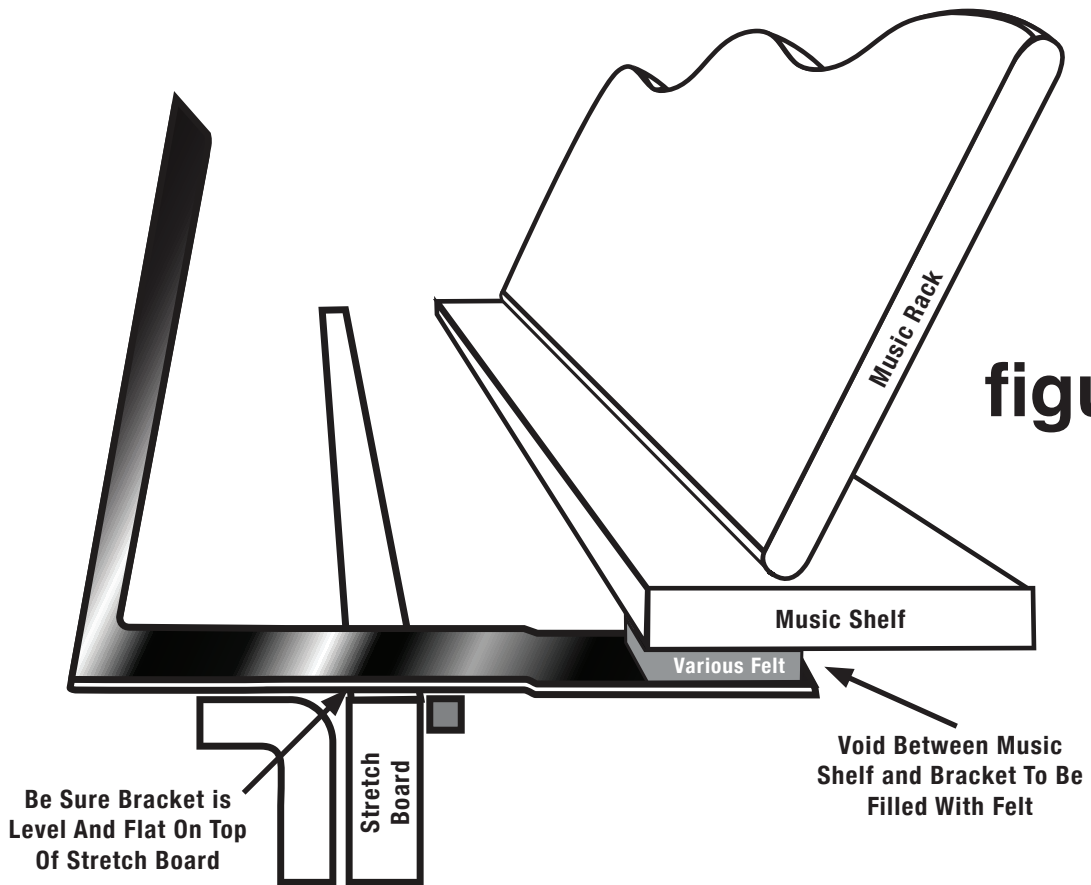
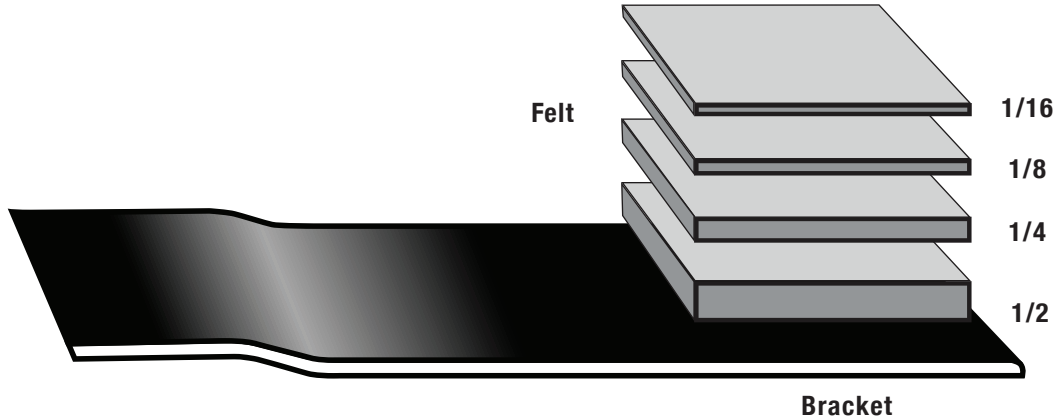

figure 2
figure 3
A.) Without peeling off the sticky-back, by trial and error, insert a combination of felt pieces on top of the bracket in order to fill the void between the music shelf and bracket. **(See figure 2)**. The Grandverismo comes with two sets of felt (one set for each bracket). Thicknesses are 1/16", 1/8", 1/4", & 1/2" thick. **(See figure 3)**. Trial fit the felt pieces, while holding the bracket level and flat on stretch board. Find the combination of felt thickness that fills the void and makes bracket fit snug and level.
B.) Once you determine which pieces of felt you need, peel off the adhesive back and stick to brackets. Stack and stick felt on top of felt as needed. Do the same for both brackets. (See figure 3).